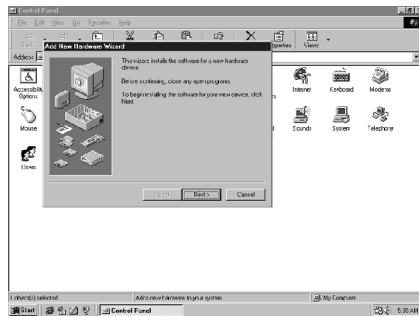
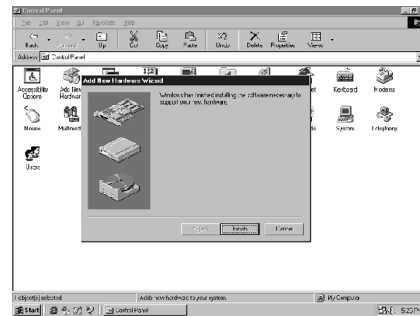

Figure 16
Figure 17
- Double click on the **“Add New Hardware”** icon, The screen will appear Figure 16. The installation program will now guide you through the rest of the installation process. When completed, the screen will appear Figure 17. Then click on **[Finish]** button to complete the installation.